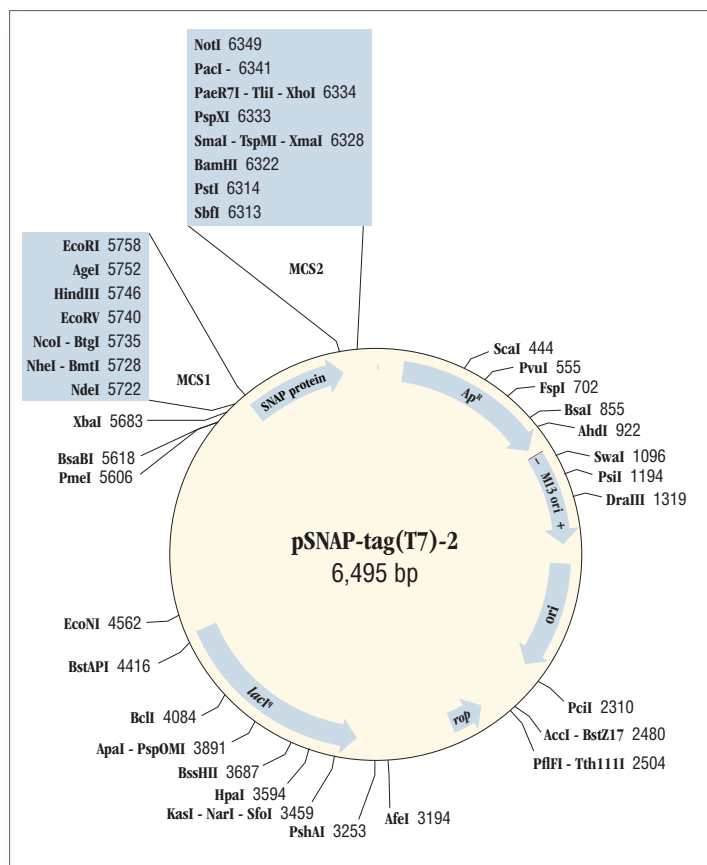

Figure 1: pSNAP-tag(T7)-2 vector map
Escherichia coli (*E. coli*) is the leading host for expression of proteins, primarily due to its ease of use. SNAP-tag technology provides biologists with a versatile tool for expression and labeling of proteins in order to characterize their functions and interactions (1–3). New England Biolabs has introduced the pSNAP-tag (T7)-2 vector which allows a protein of interest to be fused to the N-terminus or C-terminus of an *E. coli* codon optimized SNAP-tag (Figure 1). The expression of SNAP-tagged fusion proteins are under the control of the IPTG-inducible T7/*lac* promoter and can be efficiently expressed using an *E. coli* T7 expression strain of your choice (4). Using this highly flexible system, a single gene construct creates a fusion protein that can be covalently labeled with a fluorophore of your choice, biotin or beads for fluorescent imaging, pull-down or other biochemical analysis (5,6).